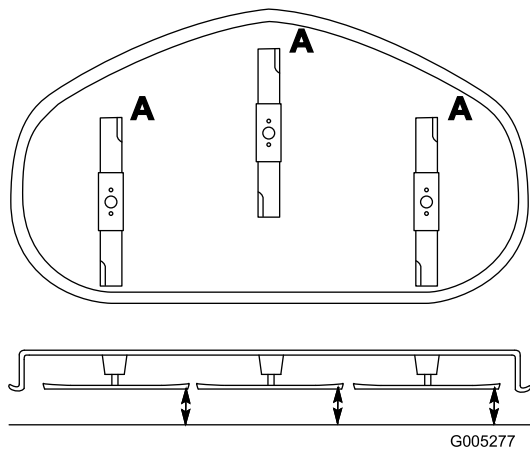

Figure 34
1. Rotate the blades until the ends face forward and backward (Figure 34). Measure from a level surface to the cutting edge, position 1.5, of the blades (Figure 34). Note this dimension.